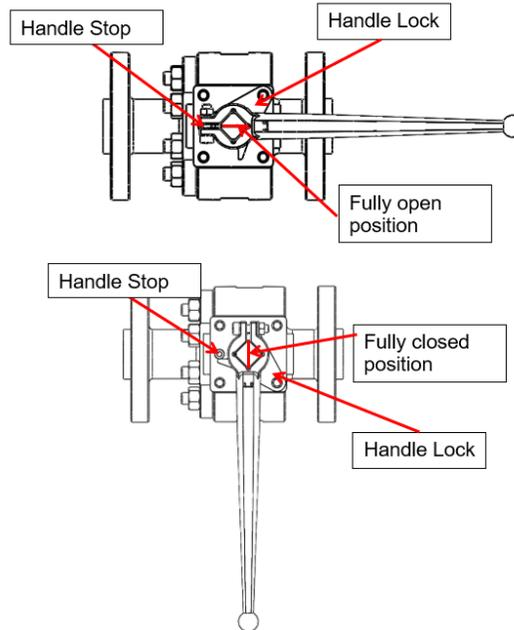

Figure 2: Manual Operation with Handle
- A. To **Open** Valve with handle assembly – rotate the handle counterclockwise 90 degrees until the Handle Stop is contacted. The valve can be locked in the fully open position using the Handle Lock plate and compatible lock. See Figure 2 below.
B. To **Close** Valve with handle assembly – rotate the handle clockwise 90 degrees until the Handle Stop is contacted. The valve can be locked in the fully closed position using the Handle Lock plate and compatible lock. See Figure 2 below.